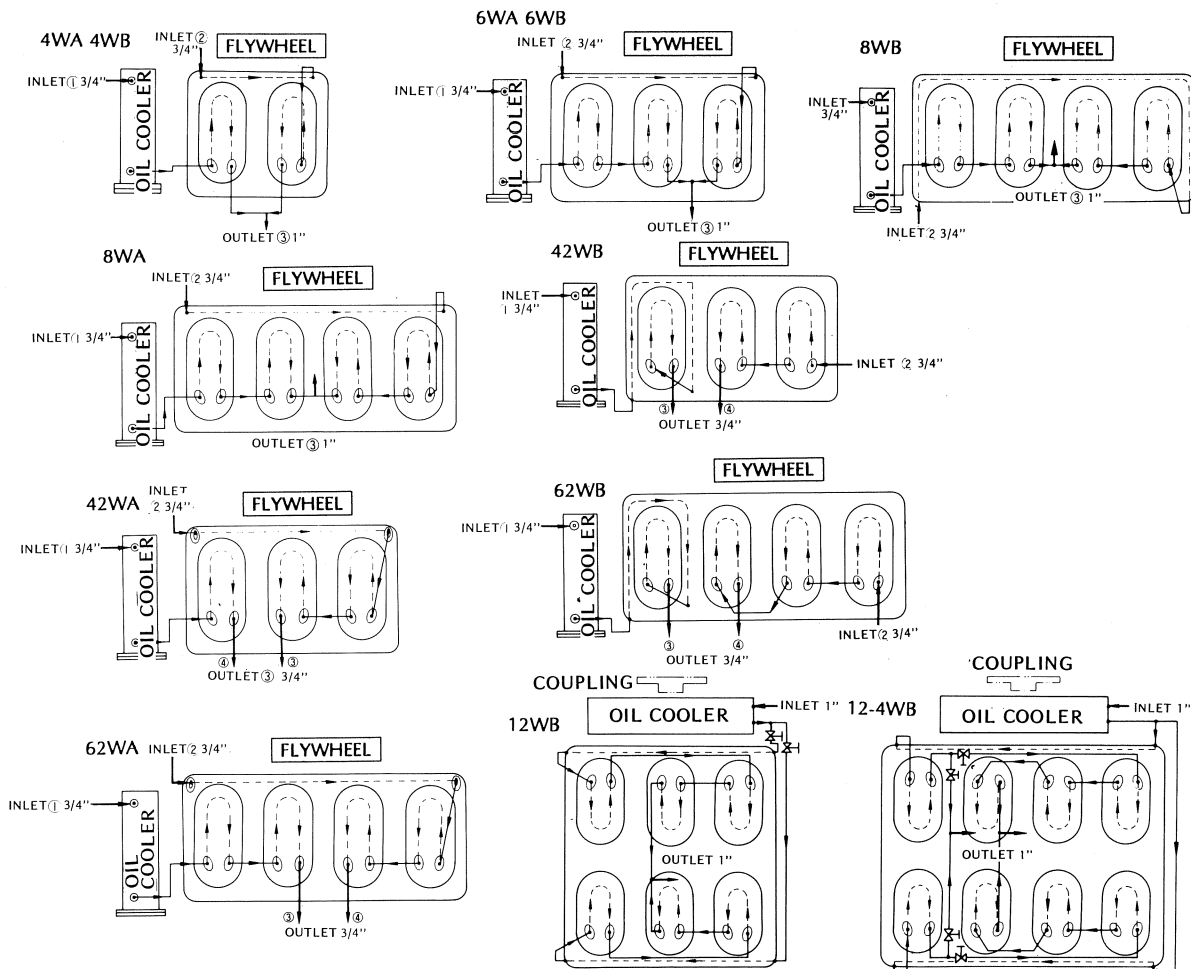

Fig. 31 Standard cooling water flow chart (Jacket head cover)
- a) The standard cooling water flow is as illustrated in Figure 31.